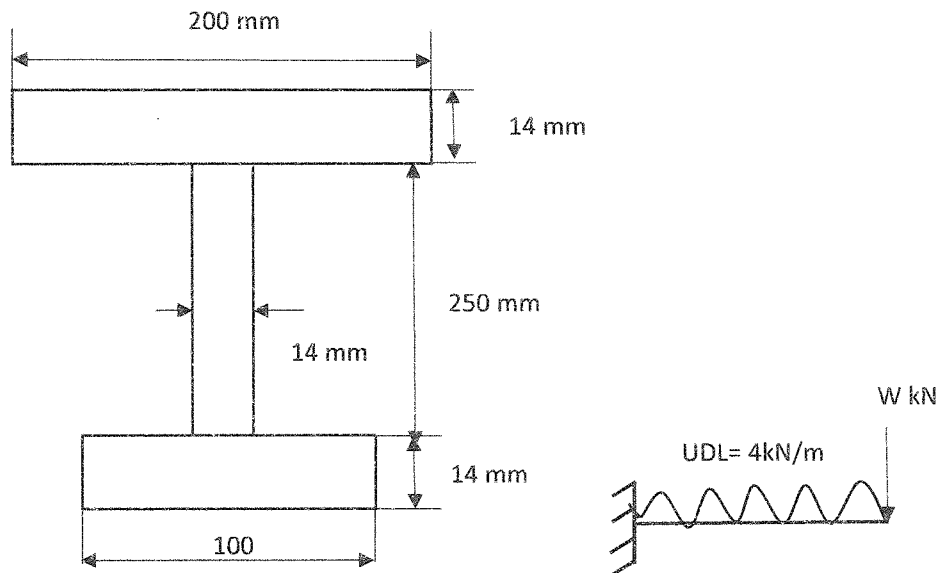

Figure 1
3. Rajesh and CO is into manufacturing concrete beams. They had to manufacture a cantilever beam having I section (shown in figure 1), with unequal flanges. The upper and the lower flanges are to be [200 mm X 14 mm] and [100mm X 14 mm] respectively. The web should be [14mm X 250 mm]. The cantilever would be subjected to UDL of magnitude of 4 kN/m over its entire length and expected to carry a point load of W at the free end as shown in Fig. 1. The material used by them has an yield stress of 330 MPa. The FOS was kept at 2.They need to find the maximum load (W) that can be applied so that the beam sections are safe.